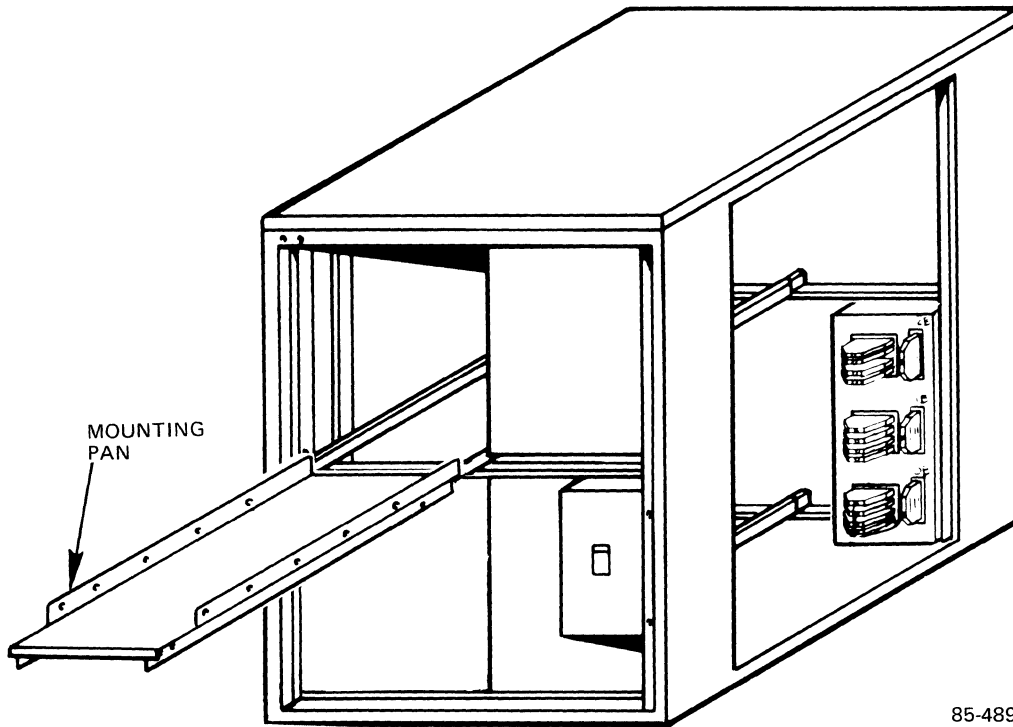

Figure 2-12. Mounting Pan Assembly
8. Inside the cabinet are the mounting pan (see Figure 2-12) and the slide assembly. Extend the mounting pan out of the cabinet until the slides click into the locked position.